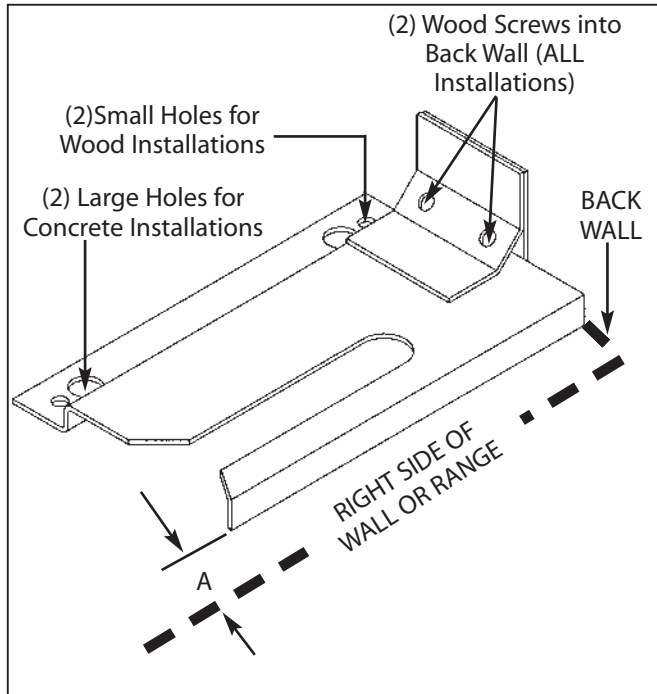

Fig. 7
Place the bracket against the back wall, into the right rear corner where the range is to be located. Leave a gap between the wall (or side of range) and the bracket (see fig.7). Drill (2) 1/8" diameter pilot holes in the center of the small holes. A nail or awl may be used if a drill is not available. Fasten the bracket securely to the floor and wall.